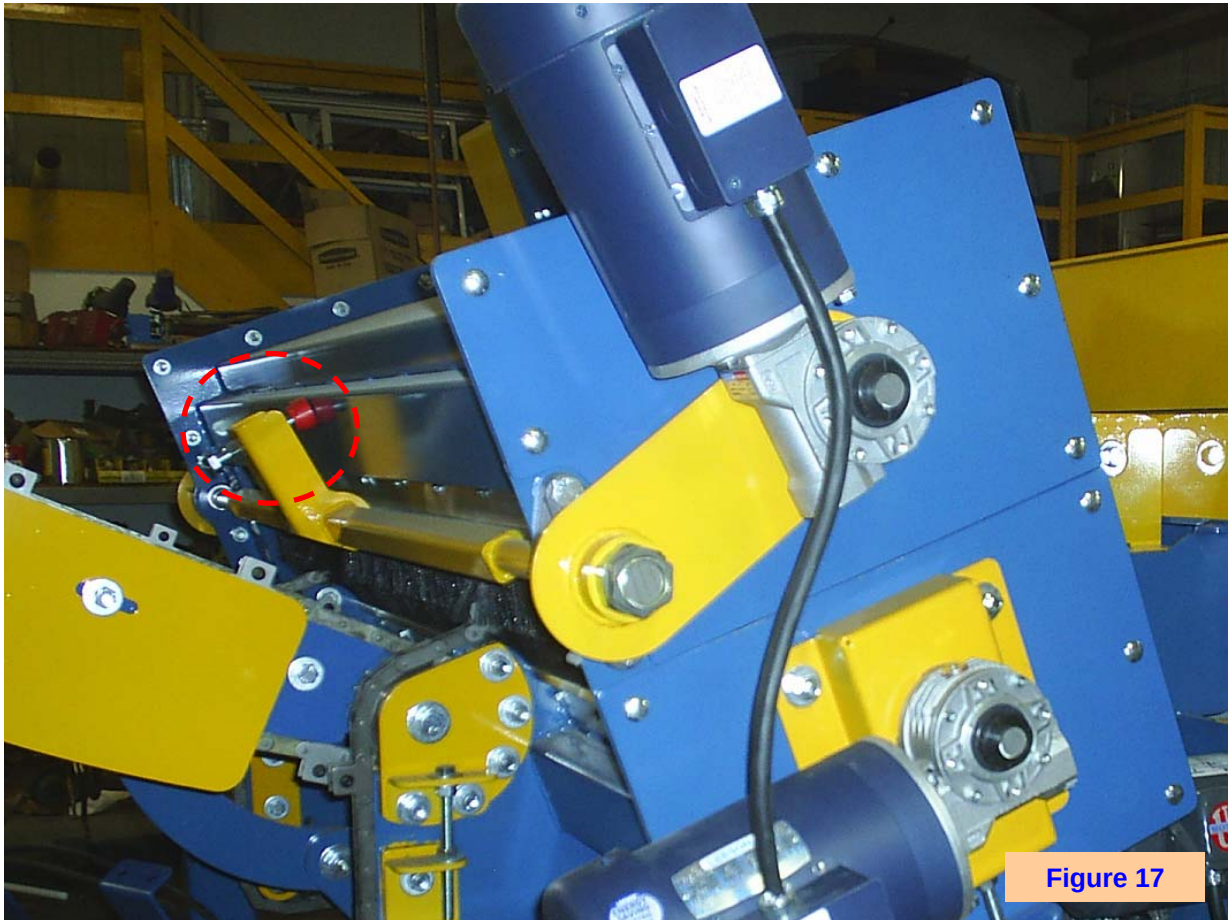

Figure 17
- ☐ To adjust the height of the top brush, loosen the jam nuts on top brush height adjustment bolt (Figures 17 & 17A).